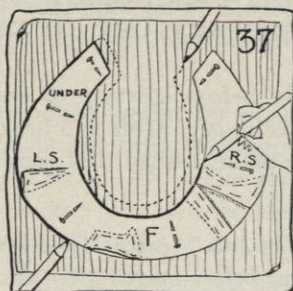

FIG. 37.
- (7) Cut new crinoline brim.
- (a) Lay crinoline brim pattern, which you have just removed from crown or headsize band, on a fresh piece of crinoline and pin it in place (see Figure 37).
- (b) Trace around edge and headsize of pattern in pencil (see Figure 37).
- (d) Put a dotted line $\frac{1}{2}$ inch away from each side of lap and from the headsize (see Figure 37).